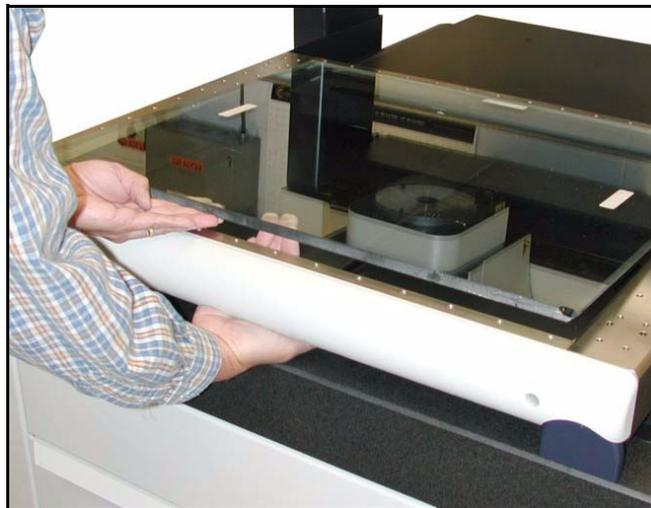

Figure 4-8 Installing the Stage Glass
3. Carefully set the back edge of the stage glass onto the back recessed ledge in the stage opening. Reach under the front of the stage to support the front of the glass as you slowly lower the glass into position (see Figure 4-8).